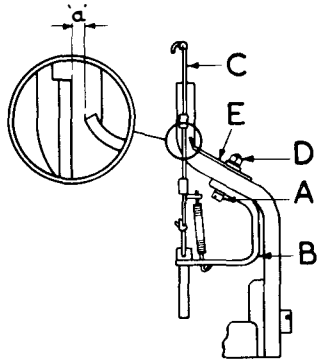

FIGURE 28A
Between Figs. 27 and 28, insert Figs. 28A to 28J.
"20A. Ribbon Jumper (Fig.28A)
- 20A.1 Slacken the screws A, Fig.28A, and adjust the guide bracket B so that the ribbon jumper C slides freely in its guides.